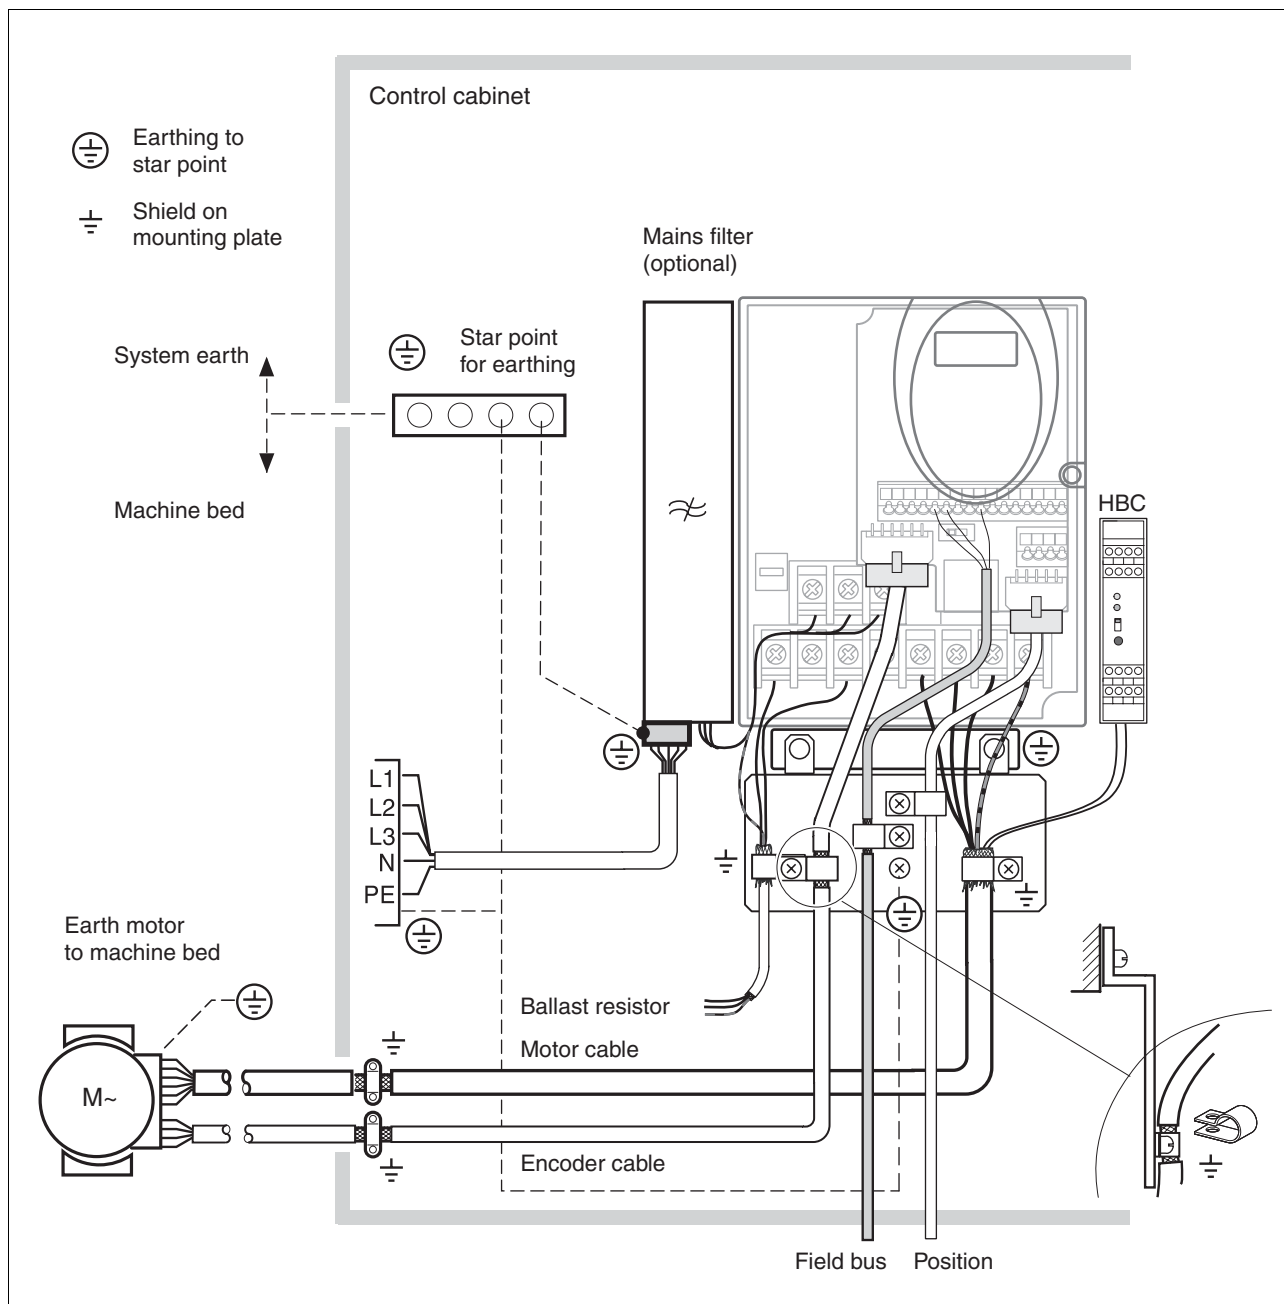

Figure 6.1 EMC measures, using a Size 2 unit as example
- ▶ Attach the supplied EMC plate at the bottom of the unit, see also Figure 6.1, or use alternative attaching elements (comb bars, shield clamps, busbars).